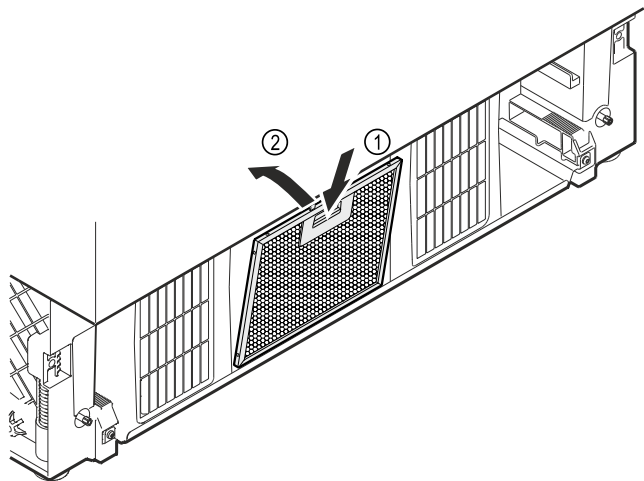

Fig. 21 Example illustration
- Press down the button on the dust filter Fig. 21 (1) and at the same time, tilt the dust filter back and insert it Fig. 21 (2).